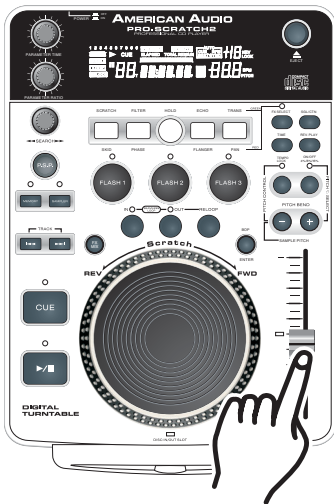

Figure 43
The (+) PITCH BEND BUTTON (28) will increase track playback speed and the (-) PITCH BEND BUTTON (29) will decrease track playback speed. The extent to which the speed changes is proportionate to the amount of time the button is pressed. For example, if the (+) PITCH BEND BUTTON (28) is held down continuously as in figure 43, the disc speed will increase and will continue to increase until it reaches a maximum of 100% speed gain. When you release the (+) PITCH BEND BUTTON (28) the disc speed will automatically return to it's previous set speed.